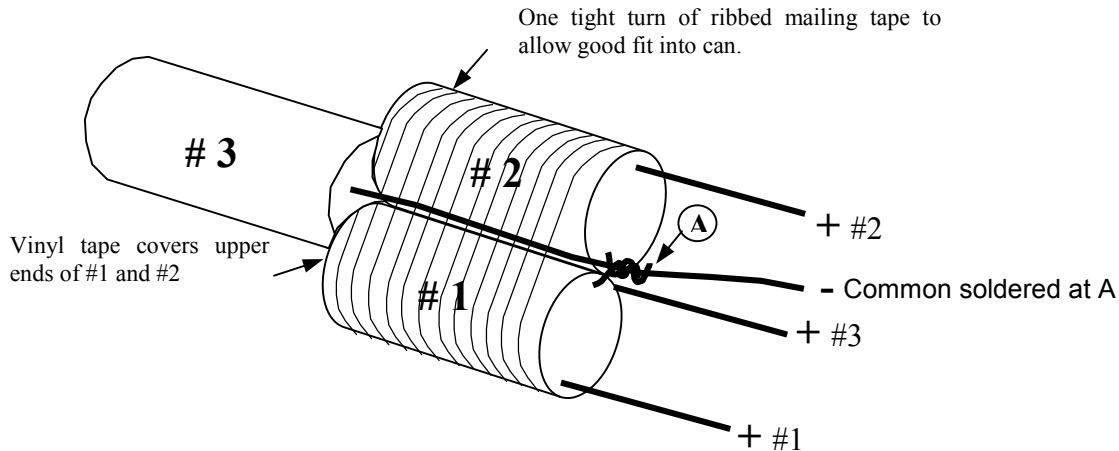

**Figure 1: C606: Two 47  $\mu\text{f}$ d 350 WVDC Electrolytic Capacitors**
4. Prepare the capacitor units. For C606, the two 47  $\mu\text{f}$ d capacitors were taped together tightly with one turn of thin, strong mailing tape so that the negative leads are close together where they can be joined and soldered to make the single common negative lead needed: Figure 1 gives details.